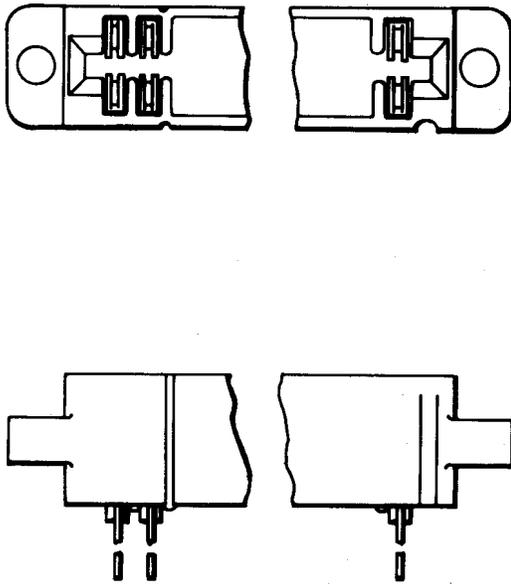

Fig. 14—907B or C Connector
**2.06 907B and C:** The 907B and C connectors (Fig. 14) consist of a molded block of insulating material containing 14 spring terminals in two rows of seven each. One end of each terminal is contained within the housing and is equipped with twin contacts for connections to a printed wiring terminal. These connectors are arranged to make contact with printed wiring terminals on two sides of a 0.094-inch thick printed wiring board when inserted into the connector.